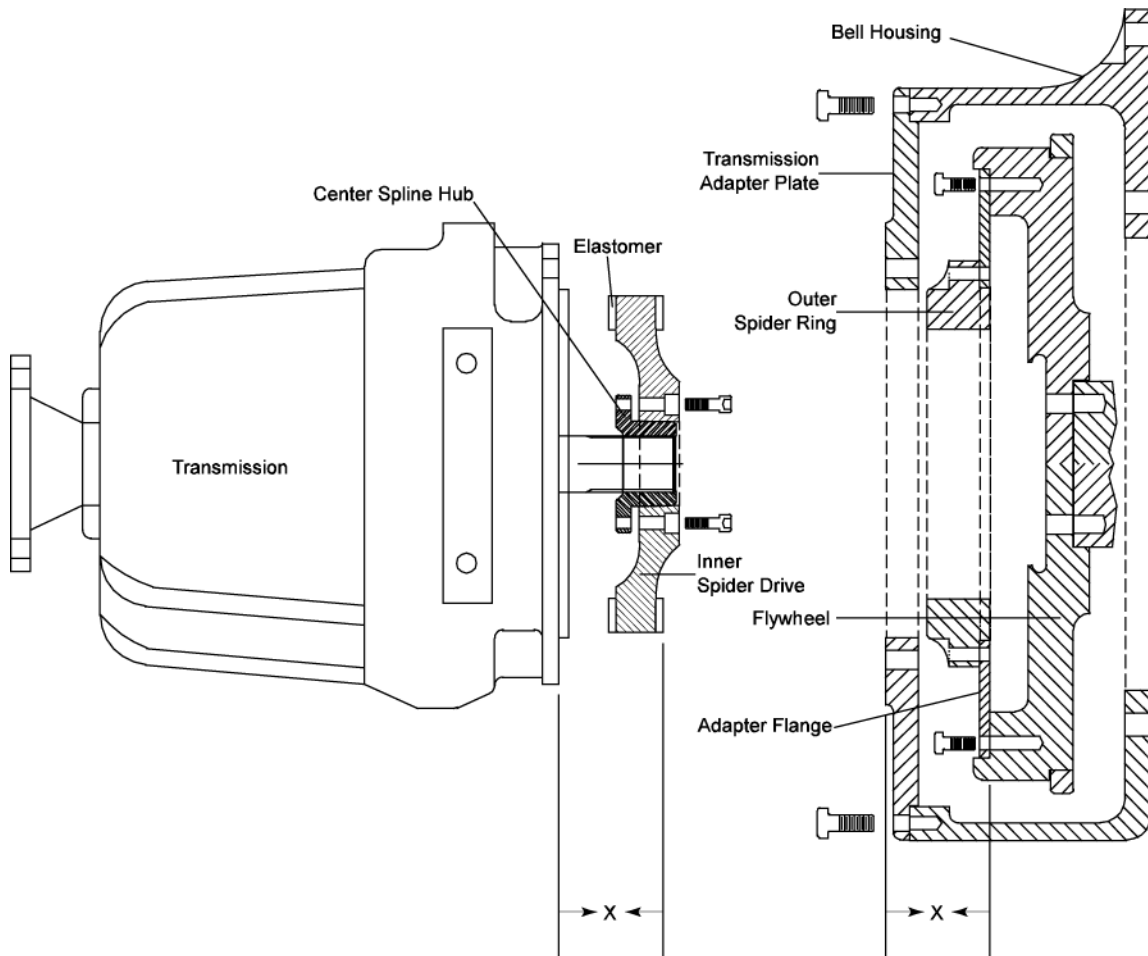

Fig. 2: Mounting Inner Spider Drive to Transmission
Mounting Inner Spider Drive for Borg Warner Group *(See Fig.2)*
Mounting Inner Spider Drive for Other Marine Transmissions *(See Fig.2)*
- Measure from the flywheel mating surface to the mounting face of the transmission adapter plate (*see Fig. 2*), this measurement will be used in the preceding steps to adjust the location of the inner spider drive on the transmission input shaft. This measurement will be referred to as "X"
- Now using the measurement "X" obtained above, adjust the location of the inner spider drive on the transmission input shaft (tap only the center spline hub during adjustment) so that when you measure from the mounting face of the transmission adapter plate to the outside of the elastomers, the distance equals "X". (*See Fig. 2*)